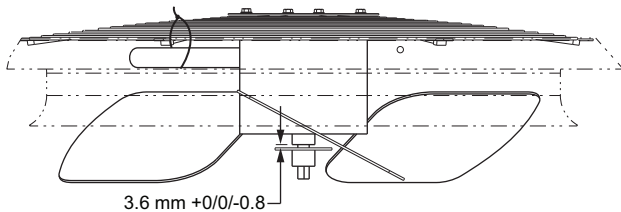

Fig. 32 — Outdoor Fan Blade Position
4. Adjust fan height as shown in Fig. 32.